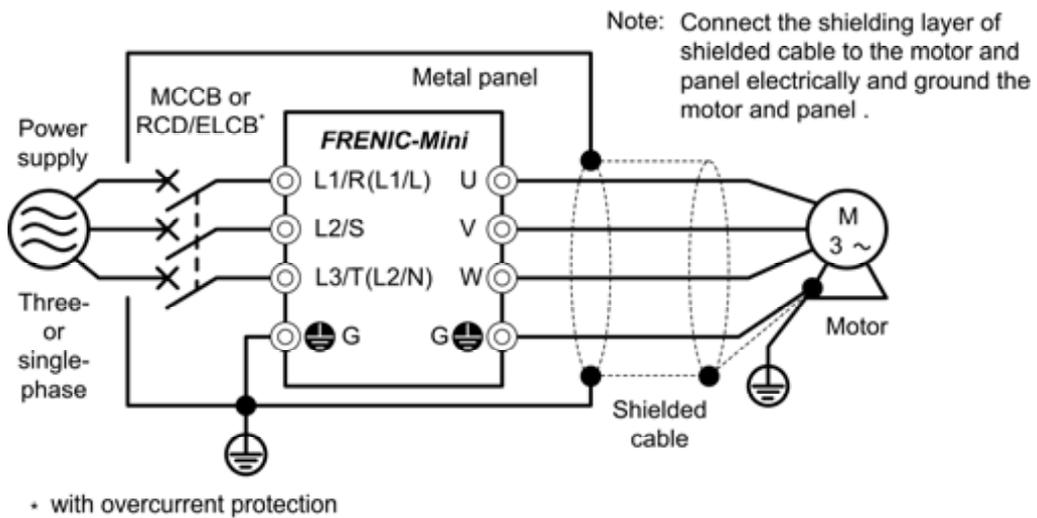

Figure 11.3 Installing the Inverter into a Metal Panel
- (4) If noise from the inverter exceeds the permissible level, enclose the inverter and its peripherals within a metal panel as shown in Figure 11.3.